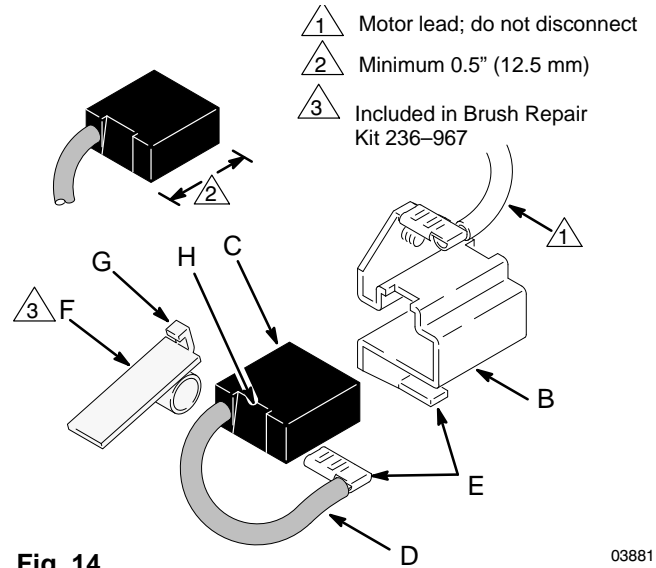

Fig. 14
2. Push in the spring clip (F) and release its hook (G) from the brush holder (B). Pull out the spring clip. See Fig 14.
3. Slide off the brush lead terminal (E) off the blade connector. Remove the old brush (C). See Fig 14.